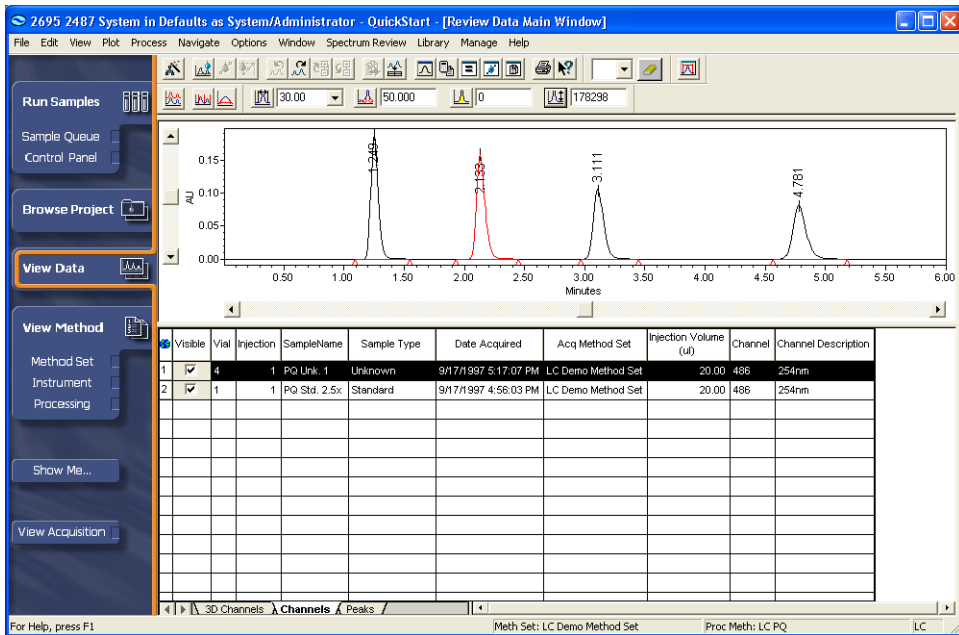

Figure 6-7 View Data Window
7. Click  (Review Main Window). The View Data window reappears (Figure 6-7).